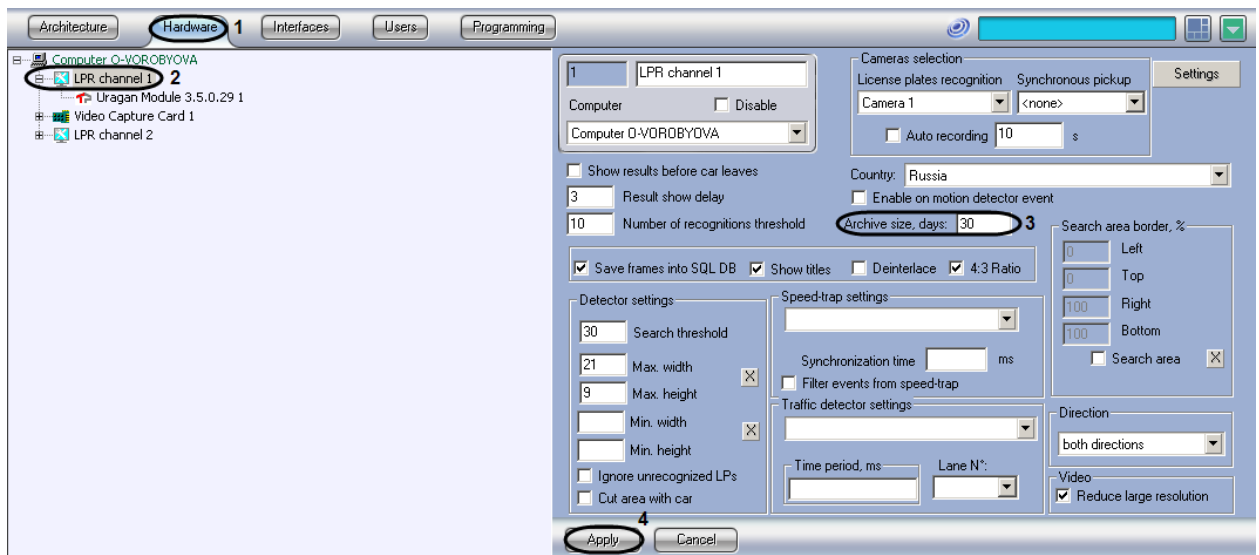

Fig. 7.2—19 Setting the Archive depth in DB
2. In the object tree of the Hardware tab, select the LPR channel, corresponding to the activated program module (see. «Program module activation, used for Plates identification», Fig. 7.2—19, 2). The settings panel of the selected object will open on the right side of the window.